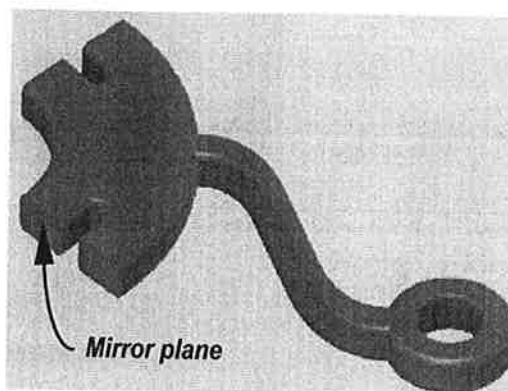

Figure 13-8
3. Click **Select** in the *Mirror Plane* field. Select the face shown in Figure 13-8 as the mirror plane reference.